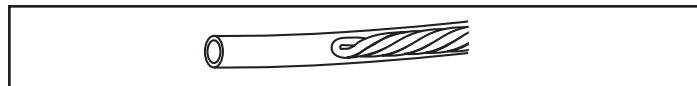

Figure 3. Stylet Position within Catheter
- Retract stylet back to a position at least one cm within the catheter (Figure 3).